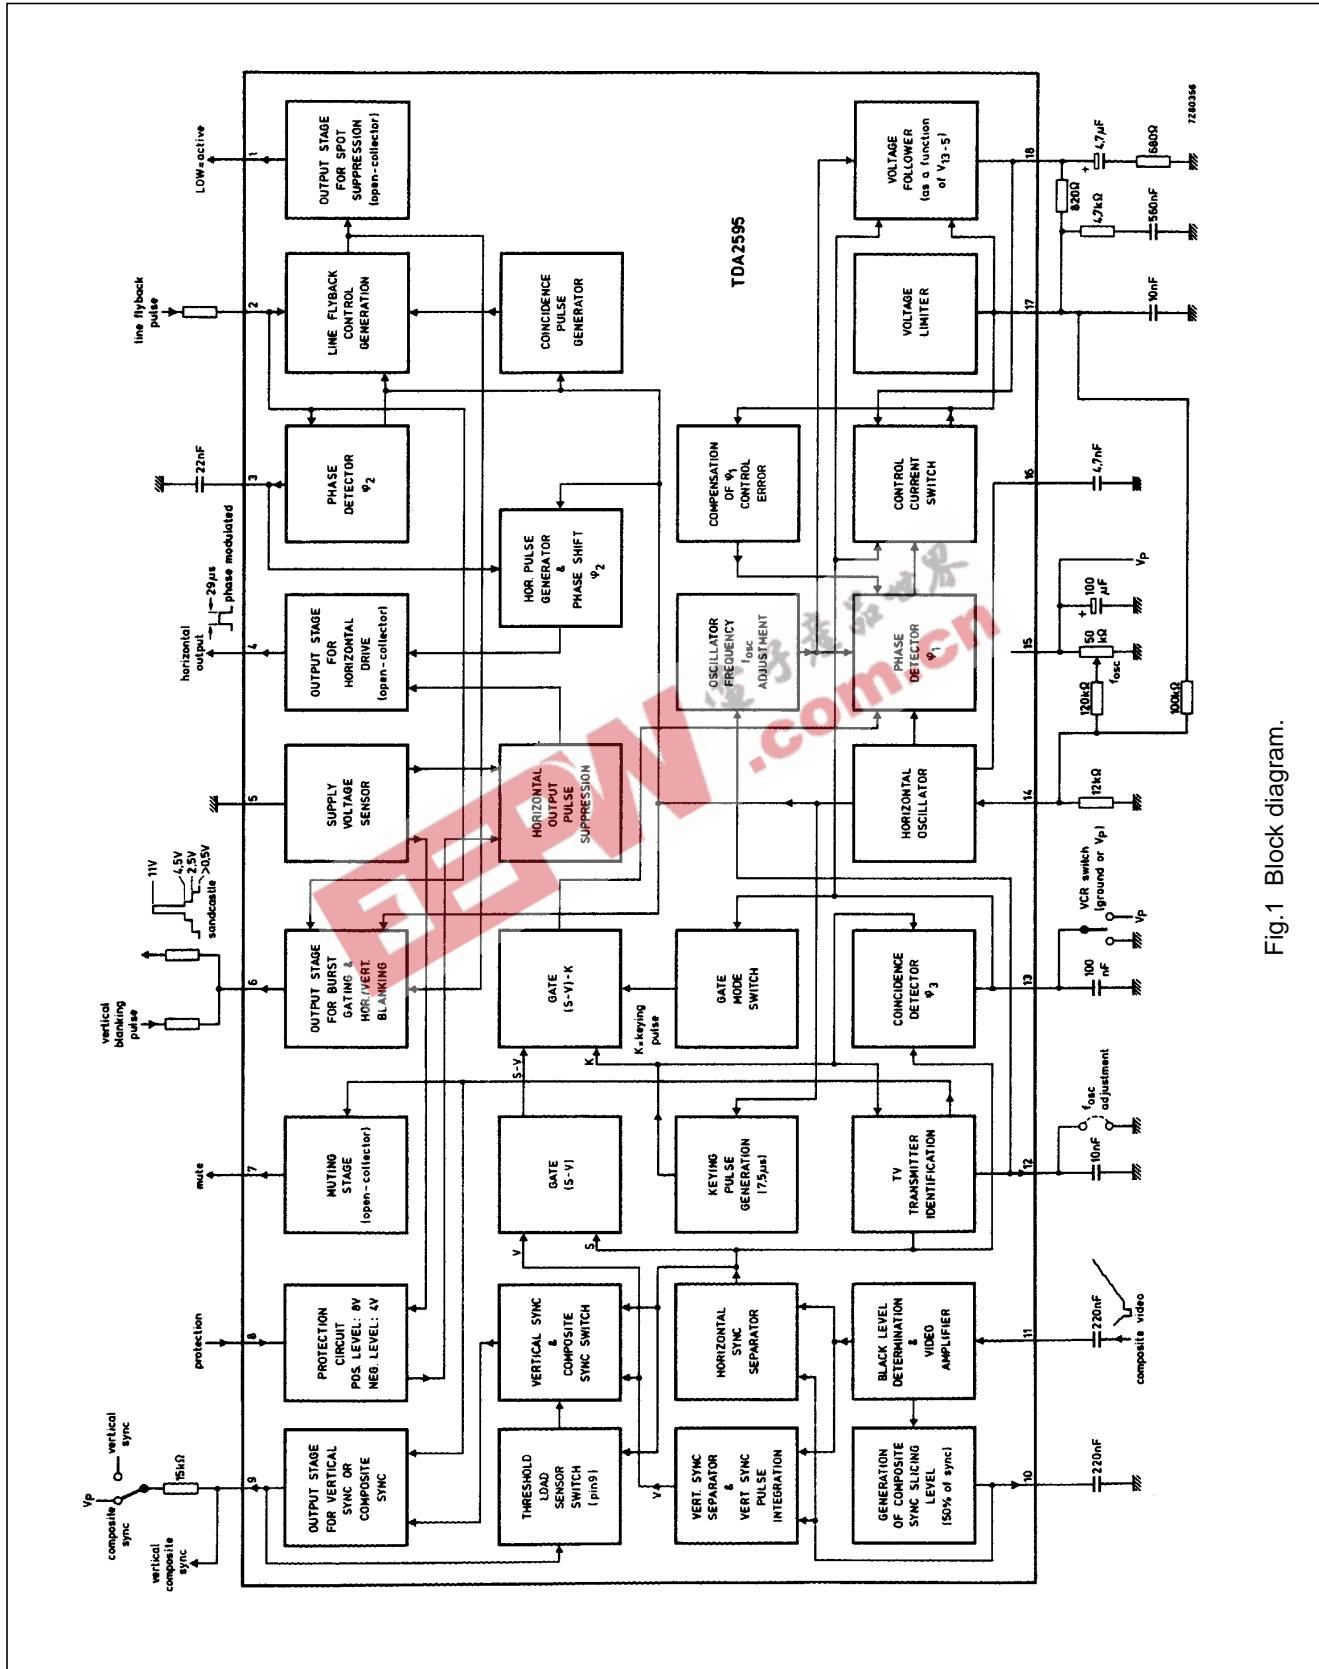

Fig.1 Block diagram.
**CHARACTERISTICS** $V_P = 12 \text{ V}$ ;  $T_{\text{amb}} = 25^\circ\text{C}$ ; measured in Fig.1; unless otherwise specified